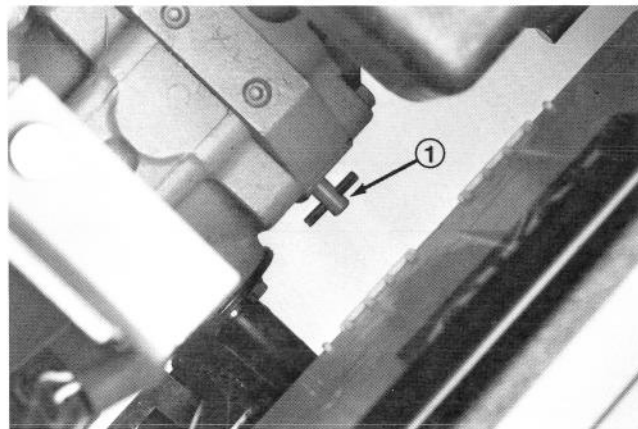

Figure 13
1. Reach in and rotate by-pass valve on transmission (Fig. 13) counterclockwise 1/2 to 1 turn. Opening the valve opens an internal passage in the pump, thereby bypassing transmission oil. Because fluid is by-passed, the machine can be pushed without damaging the transmission.